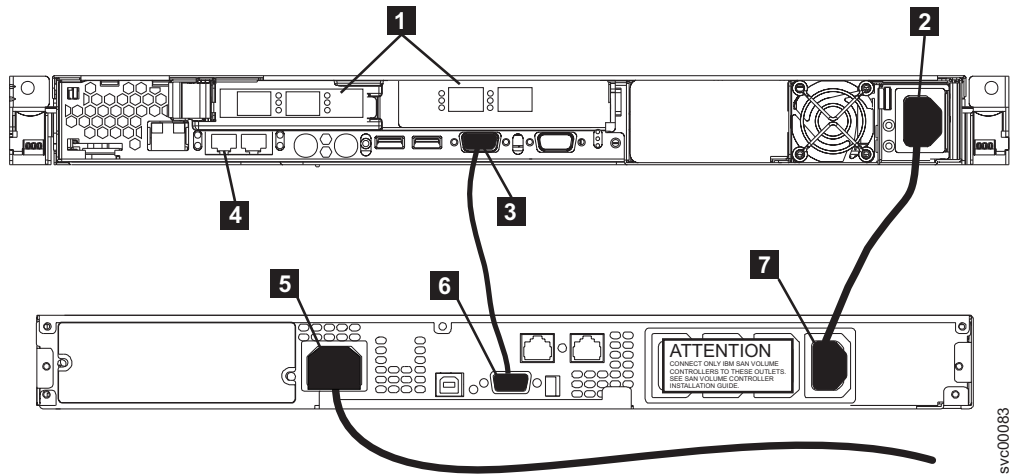

Figure 79. Connecting the SAN Volume Controller 2145-8F2 power cable to the 2145-1U uninterruptible power supply
1. At the back of the SAN Volume Controller 2145-8F4 or the SAN Volume Controller 2145-8F2, plug the combined power and serial cable into the power connector **2**. See Figure 79 on page 92.